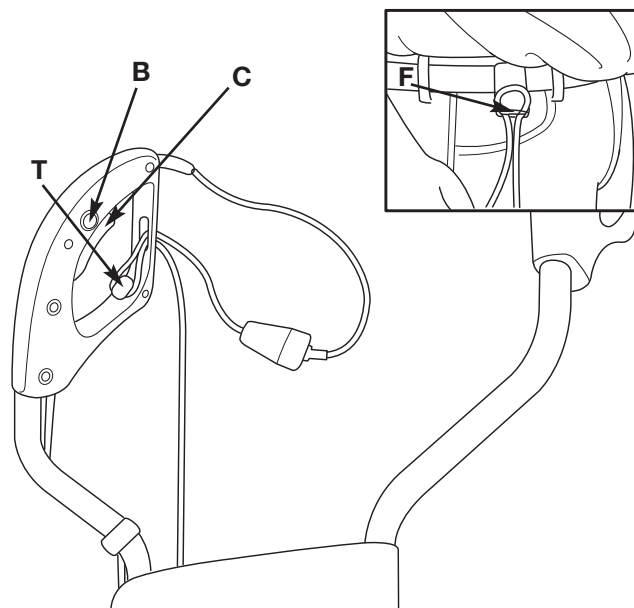

Figure 7
1. To ease tension on the cable and cord, loop the extension cord onto the cable tension relief (T) (See Fig. 7).
4. Hang the extension cord onto the Belt Clip (F) (See Fig. 7) and fasten to your trousers.
1. Turn ON the machine by pressing the Safety Button (B) (See Fig. 7) and the squeezing Power Switch (C) (See Fig. 7). Release the Safety Button (B) (See Fig. 7).
2. After completing the work release Power Switch (C) (See Fig. 7) to turn the machine OFF.